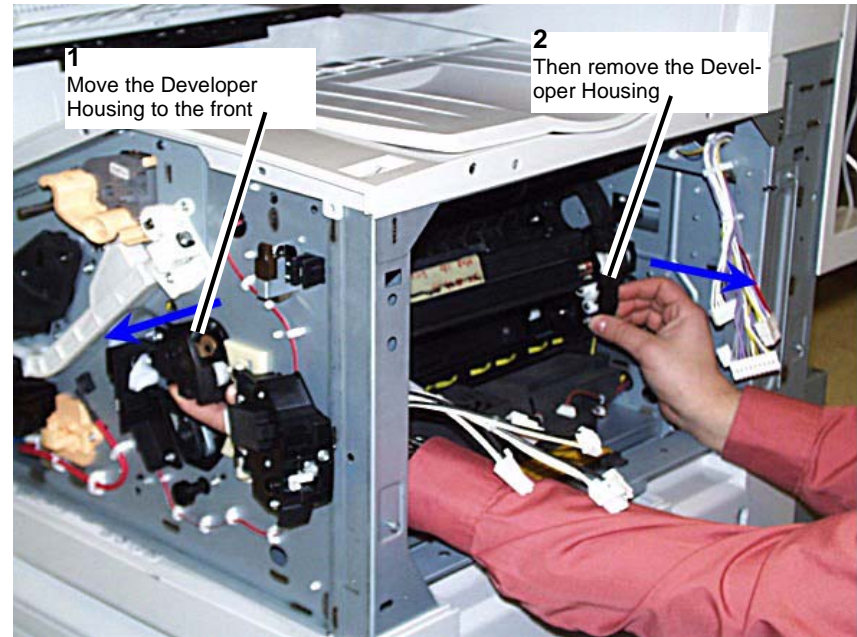

Figure 4 Removing the Developer Housing
4. Move the Developer Housing toward the front then remove the Developer Housing. (Figure 4)